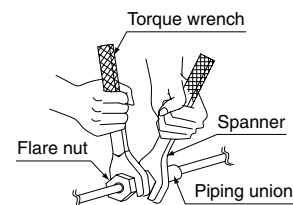

Fig. 4
- (1) Connect the piping.
- When connecting or disconnecting piping to or from the unit, be sure to use two spanners and two torque wrenches. (Refer to Fig. 4)